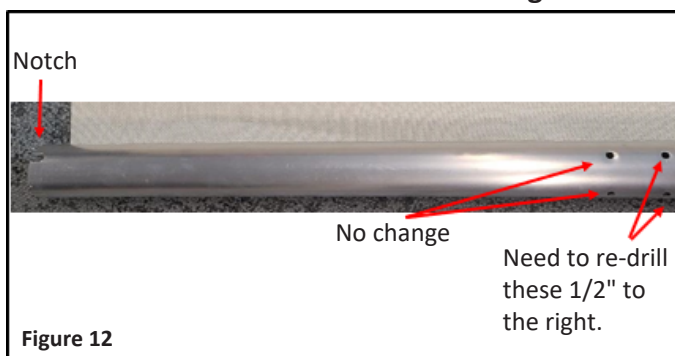

Figure 12
24. Place the lower end of one of the Vinyl Coated cables through the hole in the Cable Guide Bracket and from the bottom slide one of the Cable Guide Stops onto the Vinyl Coated Cable and secure in place with the 5/64" Allen wrench. Repeat for the other side of the EasyShade. See **Figure 12**.
18. Orient the roller bar and fabric in front of you with the notched end on the left. See **Figure 12**.